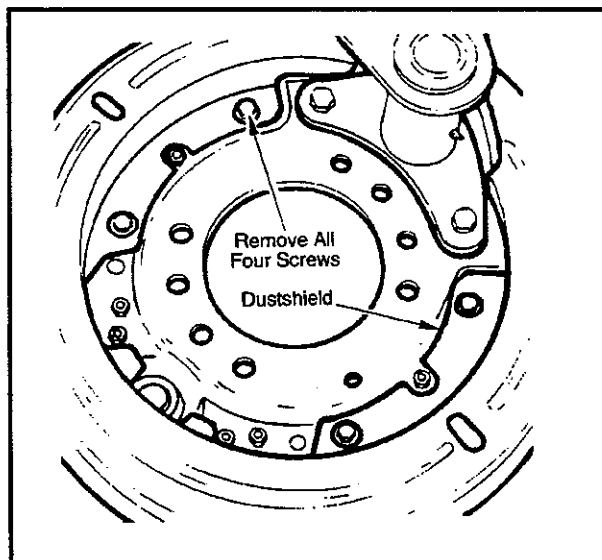

Figure 42—Remove Screws
5. Remove all screws attaching dust shield to spider. (See Figure 42—Remove Screws.)